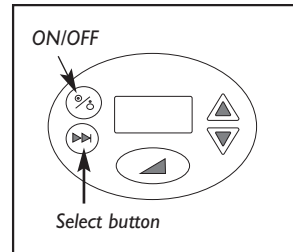

Figure 9
5. When you awake in the morning, press the ON/OFF button to turn the blower OFF (**Figure 9**).